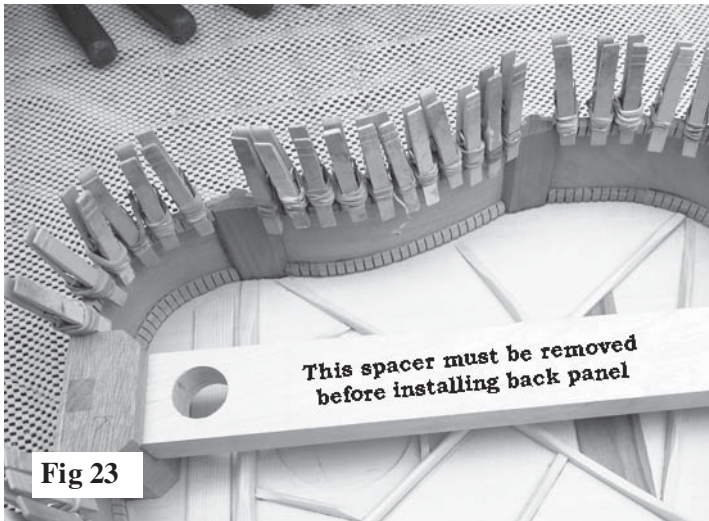

Fig 23
23. Now you need to install kerfing all around the back edge of frame, just as you did on the front edge earlier (fig 23).